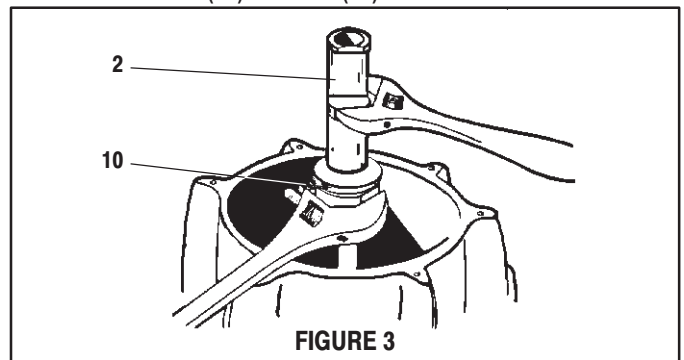

FIGURE 3
10. Disassemble the (2) valve piston from the (10) piston adapter, as shown in figure 3.
11. Remove (2) valve piston.
12. Pull the (10) piston adapter upward and grasp the (11) extension rod